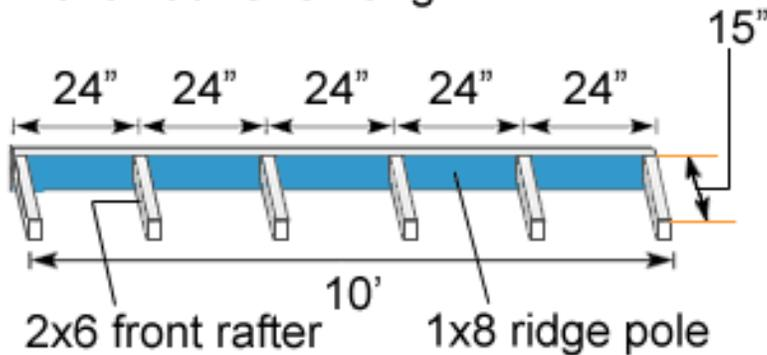

Figure 2
**Step 4.** Once your rafters are plumb, it is time to assemble the front overhang. This can be done on the ground and then attached as one unit. Start by end nailing the 2x6x15" front rafters to the 1x8x120" Ledger Board at 24" on center. Figure 2. Use three 16d framing nails for each rafter.